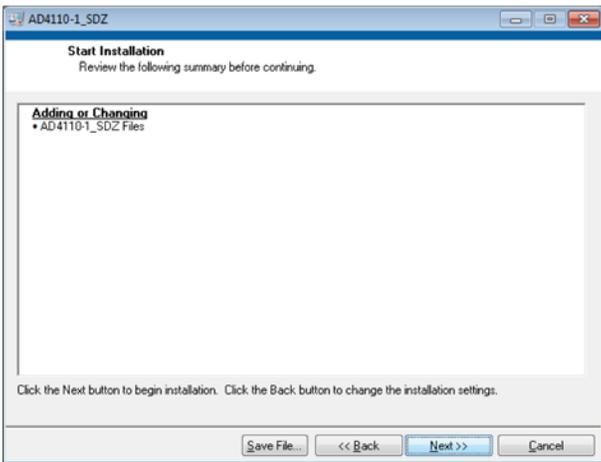

Figure 7. Installation Summary Window
- A summary of the installation is displayed. Click **Next>>** to continue (see Figure 7).